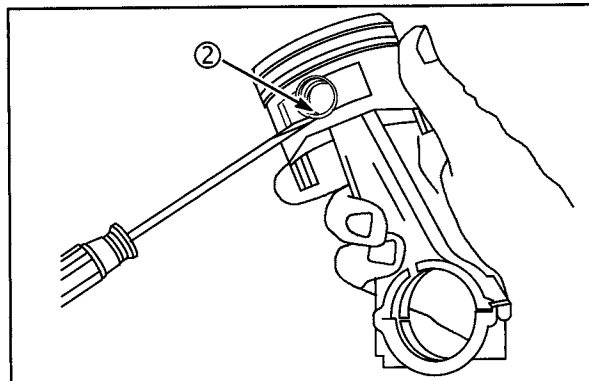

Fig. 2
3. Disassemble piston from connecting rod, Fig. 2.
- a. Remove piston pin locks (2).